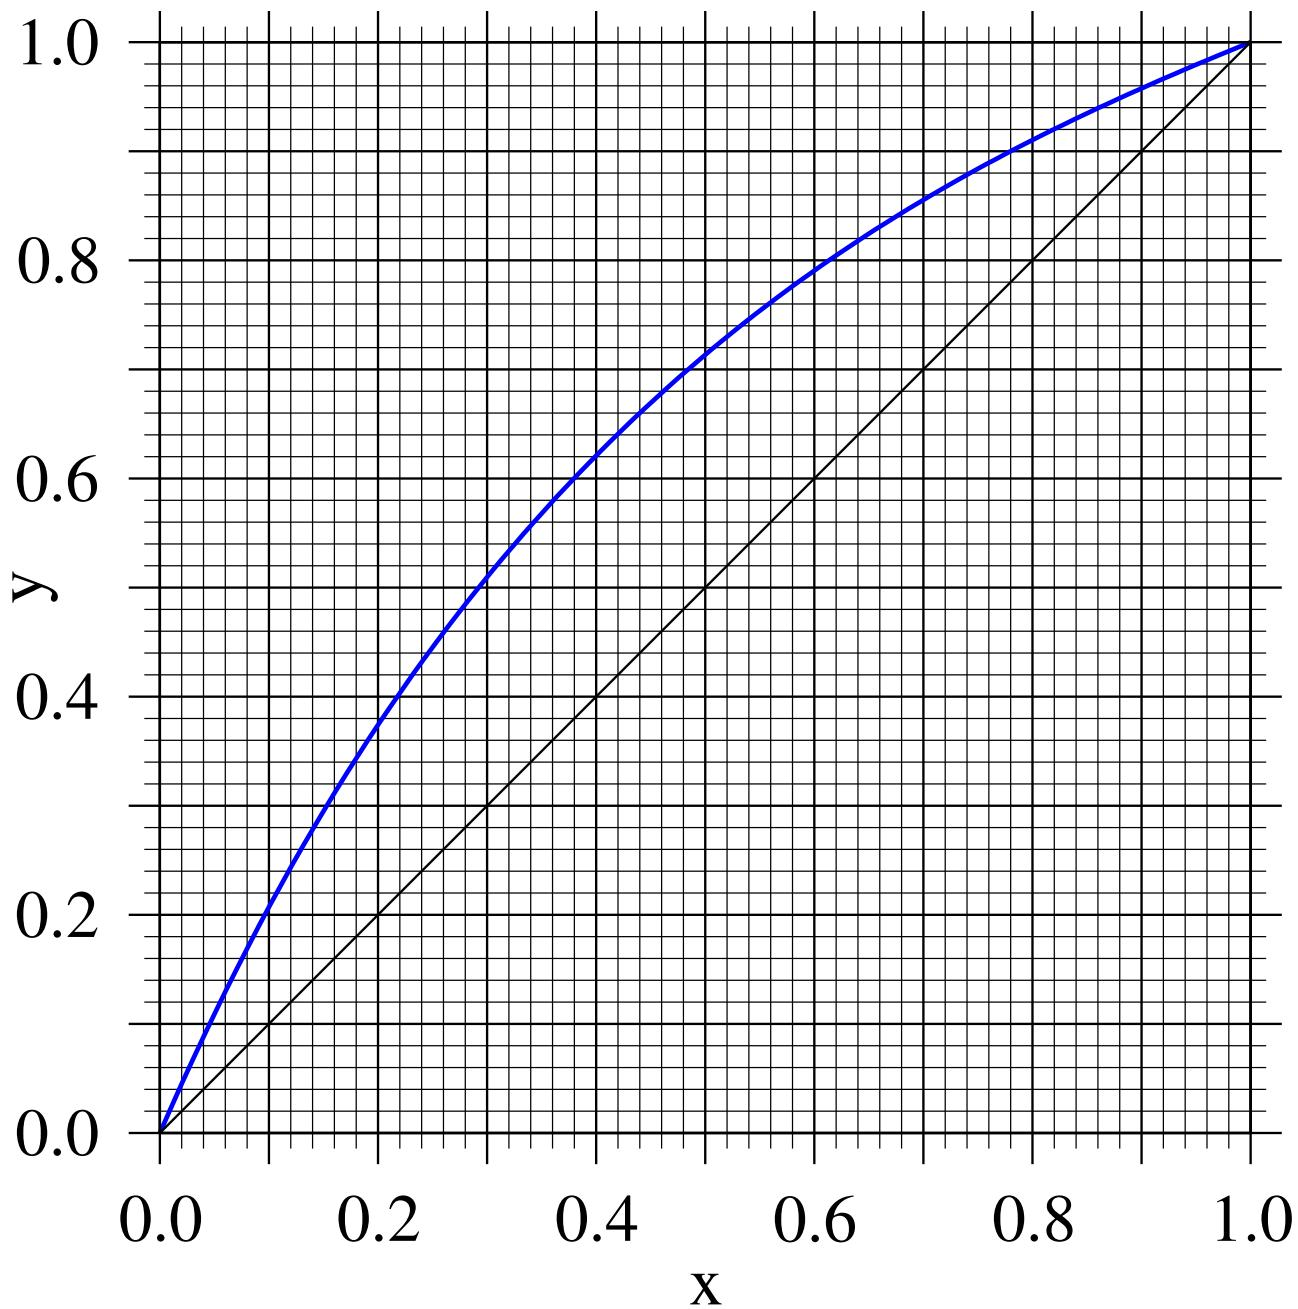
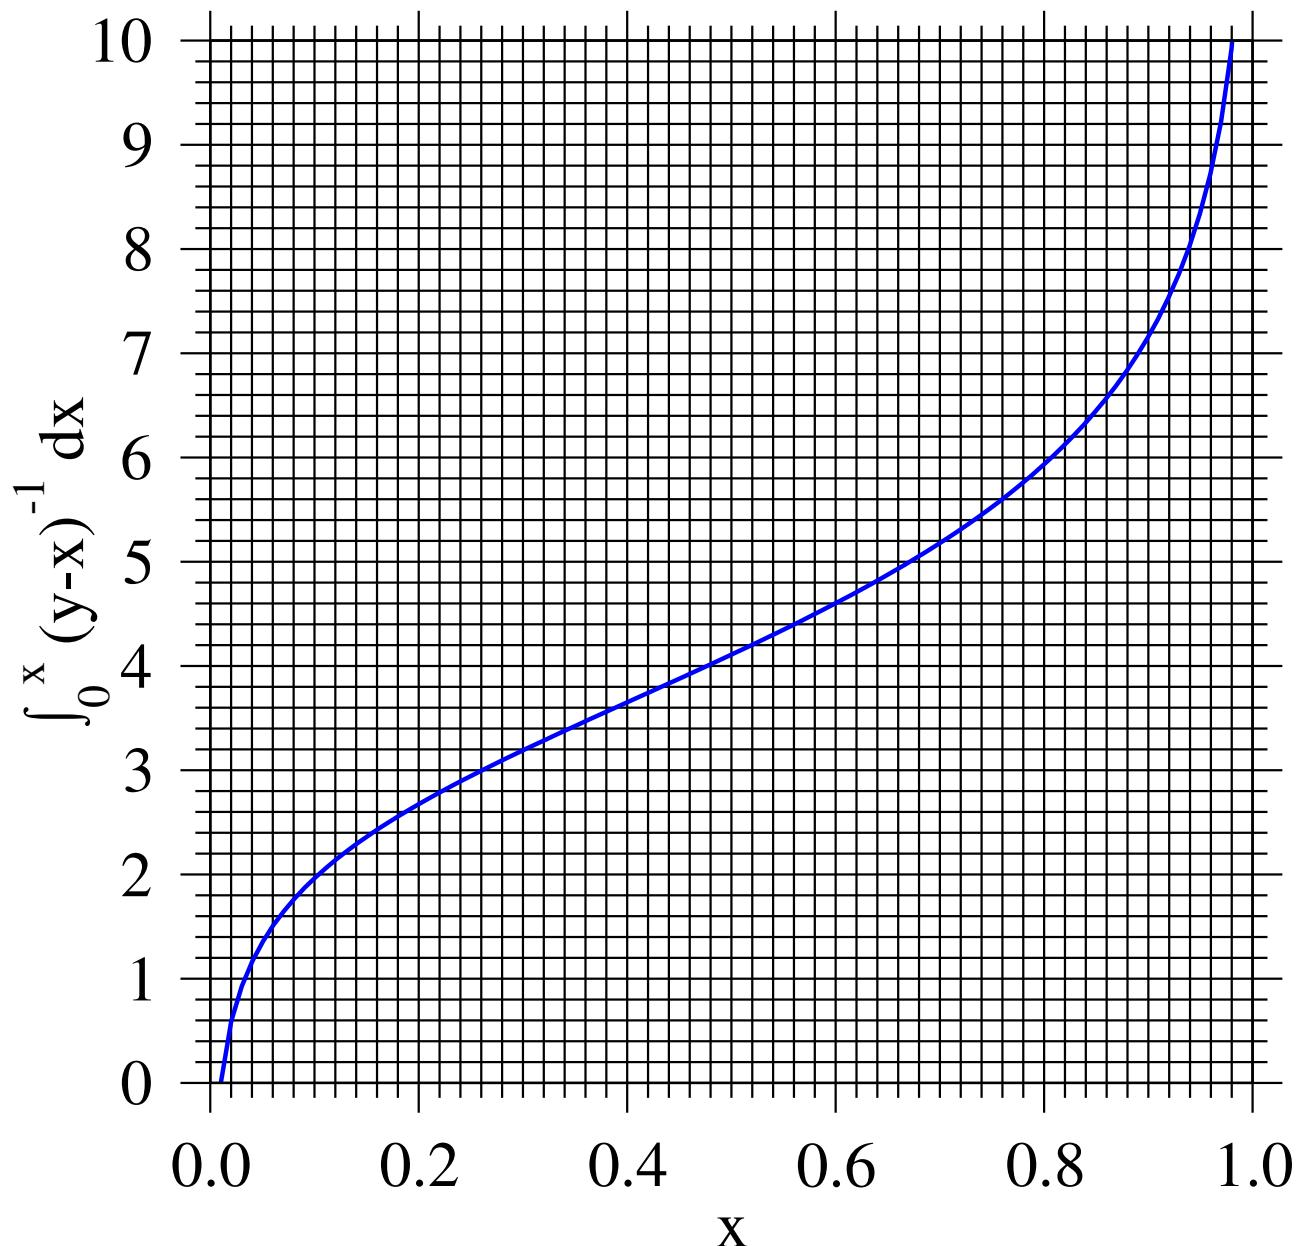

Figure 16: VLE data for benzene( $x/y$ )-toluene mixtures. For use in Q. 19, 20, and 30.
Figure 17: Integrated VLE data for benzene( $x/y$ )-toluene mixtures. For use in Q. 19 and 20.
- a) What is the outlet concentration of the vapour and liquid streams from a flash drum? The flash drum is operated so that only 20% of the feed stream is vapourised.  $x$ - $y$  VLE data is available in Fig. 16. [7 marks]
- b) What is the average vapour concentration and the final liquid concentration if the same feed is supplied to a single-stage batch still instead? You should assume the same proportion of vapour is produced as in the flash drum. Integrated VLE data is available in Fig. 17 for this calculation. [8 marks]
A 10,000 kmol benzene-toluene mixture is sent for batch distillation at atmospheric pressure. Integrated VLE data is available in Fig. 17 and standard VLE data is available in Fig. 16.
[2] Using Fig. 16, the liquid in equilibrium with a  $y = 0.6$  mixture is  $x = 0.38$ .